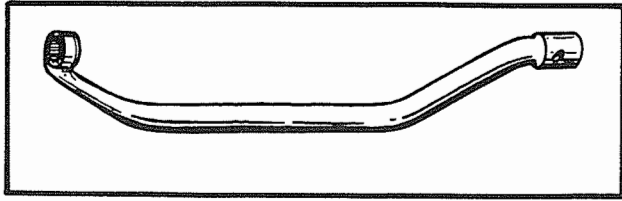

Figure 7-108. Fuel Injection Pump to Adapter Screw Wrench
- d. Remove the pump to adapter screws using wrench 807110 (figure 7-108).